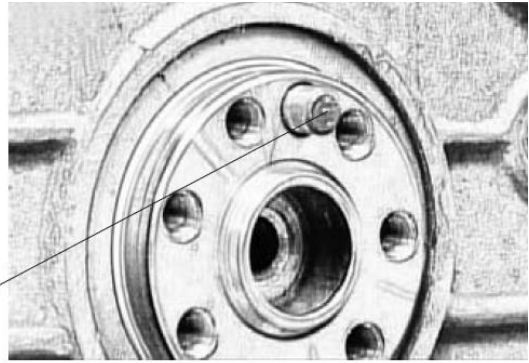

Fig 5-12 Flywheel Knock-pin
1.14 Use fixed pin to fix flywheel with crankshaft, crossly tighten bolts with torque 210 Nm.(see Fig 5-12)